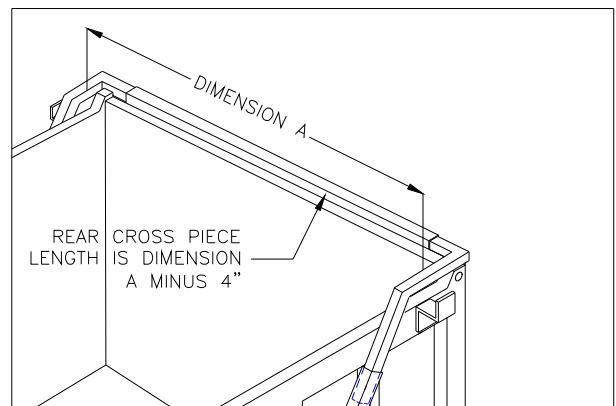

FIGURE 5
- 5) Measure the distance between the upper arms as in Figure 5. Cut one end of the rear cross piece 4" shorter than the distance measured as Dimension "A" in Figure 5.